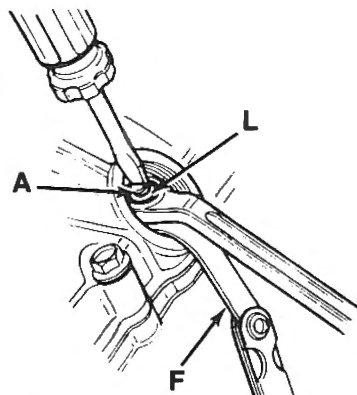

Fig. S13-13—Measure valve clearance with feeler gauge (F). Loosen locknut (L) and rotate screw (A) to adjust.
Clearance between rocker arm adjusting screw and valve stem should be 0.03-0.08 mm (0.001-0.003 in.) for intake valve and 0.08-0.13 mm (0.003-0.005 in.) for exhaust valve. Check clearance with feeler gauge (F—Fig. S13-13). Adjust clearance by loosening locknut (L) and turning screw (A). Be sure to recheck clearance after locknut is tightened.